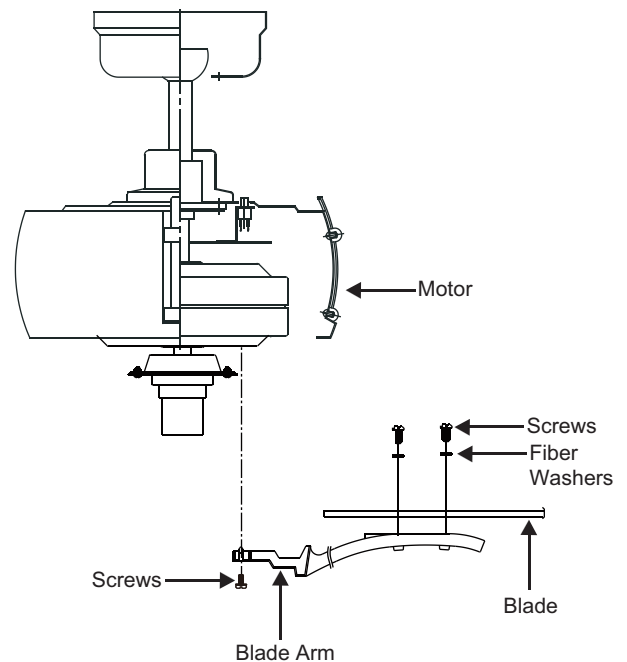

Figure 11
1. Attach blades to blade arms using three screws and fiber washers (Fig. 11). Start a screw into the blade arm, do not tighten. Repeat for the 2 remaining screws and washers.
3. Fasten the assembled blades to the motor by lining up the slots of the blade arms with the tabs on the motor, then tighten the two screws and washers already installed in the blade arms (Fig. 11).